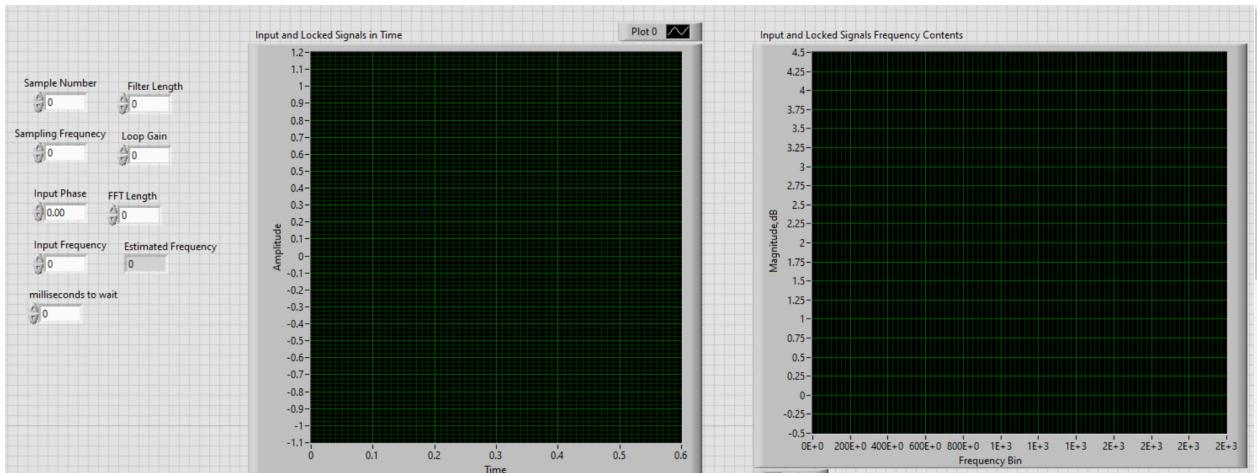

Fig.5. Front Panel for PLL
17. Plot generated and locked waveforms both in time and frequency domain in graphs. Your front panel must look like as in Fig. 5.